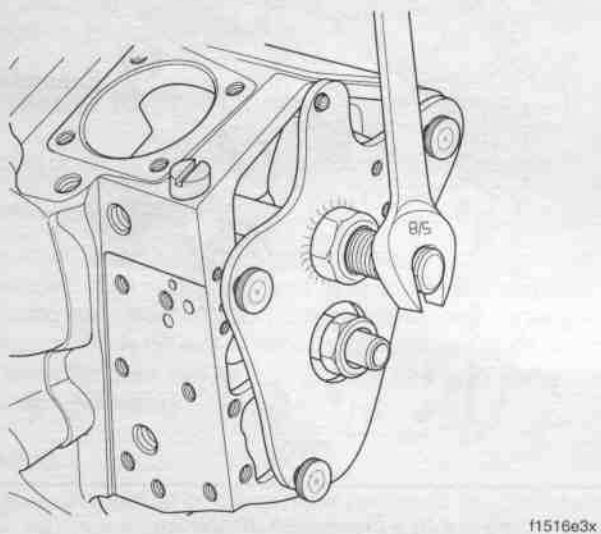

Figure 3-59. Install Cam Gear Needle Bearing
4. See top frame of Figure 3-59. Aligning large hole in plate with end of crankshaft, place the plate on two dowel pins in crankcase.
6. See bottom frame of Figure 3-59. Center pilot over bearing bore. Using 5/8 inch open end wrench, turn flat at end of installer shaft in a clockwise direction until shoulder on pilot makes full contact with crankcase face.